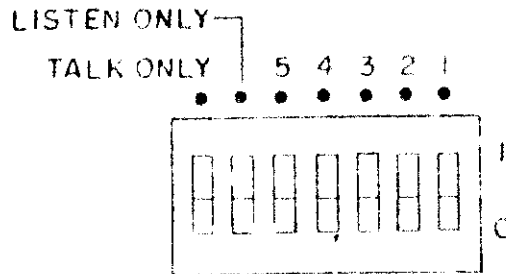

Figure 2-2
2.8 ADDRESS SELECTION. The talk and listen addresses of the 82AD are selected by the address selector switch (Figure 2-2) located on the rear panel. This switch is a seven position "DIP" switch with positions marked "1" through "5" as the address code and positions 6 and 7 for talk or listen only selection. Table 2-2 lists the available address codes and the corresponding switch settings.